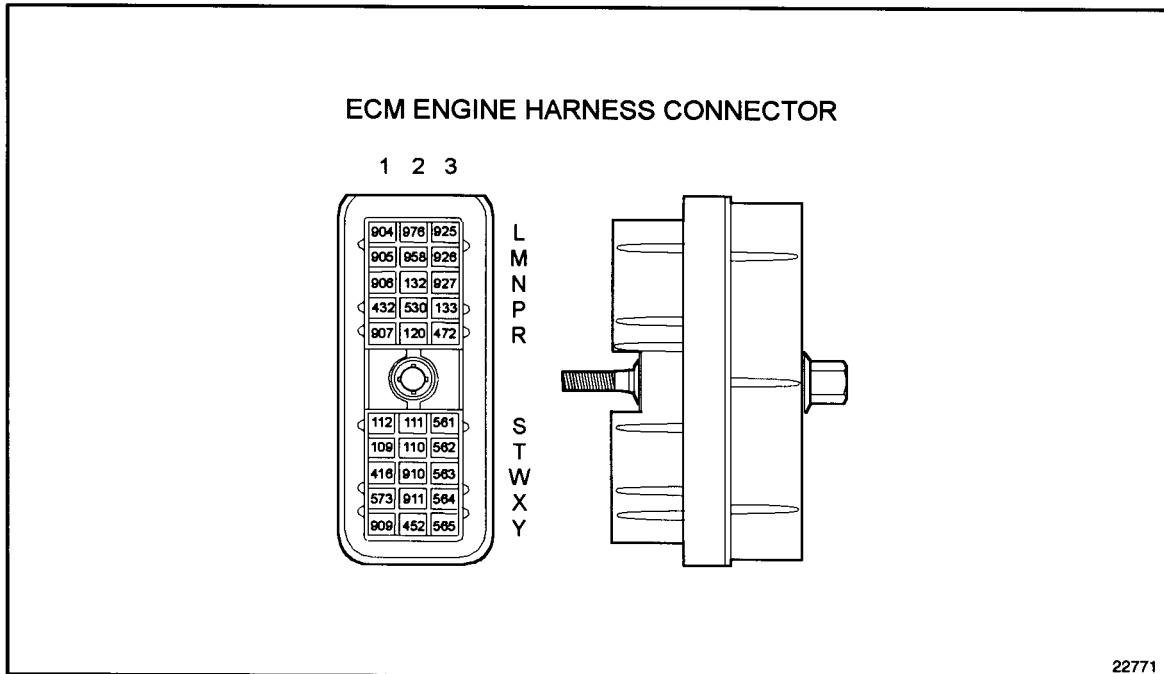

Figure 14-13 ECM Engine Harness Connector
1. Check terminals at the ECM engine harness connector (both ECM and harness side) for damage: bent, corroded and unseated pins or sockets. See Figure 14-13.